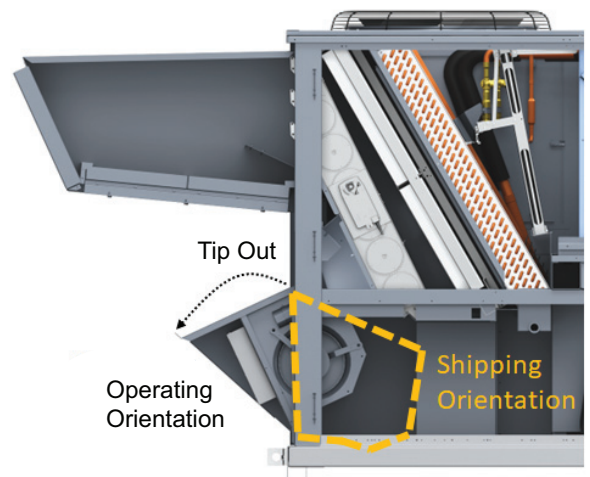
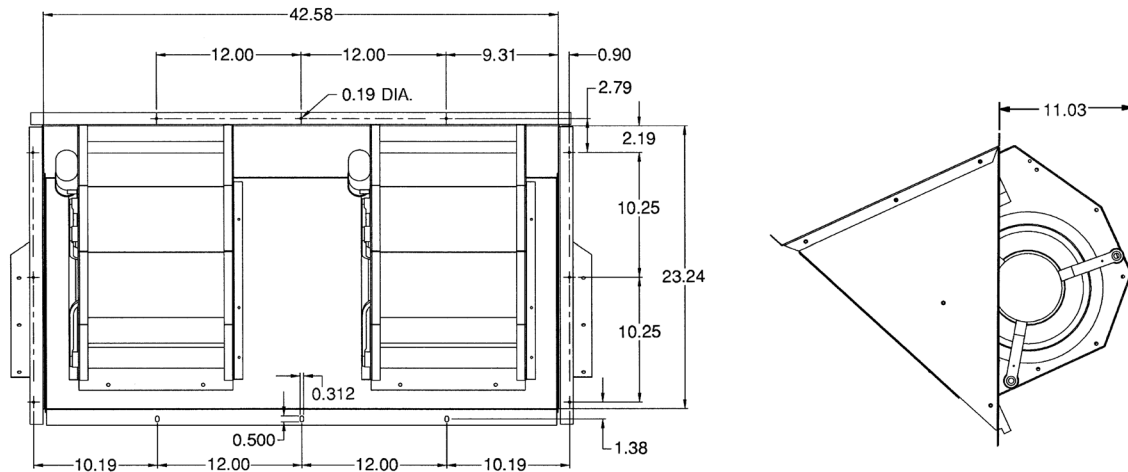

Fig. 30 — Exhaust/Relief Shipping and Operating Locations
Fig. 31 — Exhaust/Relief Details
Unit sizes 20-50 have two relief/exhaust assemblies and, unit size 60 has three relief/exhaust assemblies. For units with power exhaust, electrical connections have been made and adjusted at the factory. See Fig. 30 for relief/exhaust shipping and operating orientation and Fig. 31 for operating orientation.
1. Remove 9 screws holding each relief/exhaust assembly in place. See Fig. 30 and 31. Each assembly is secured with 3 screws on each side and 3 screws along the bottom. Save screws.